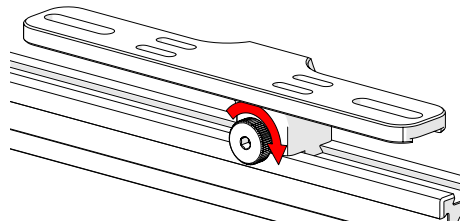

Fig. 85 - Tighten knob
2. Tighten the knob to lock the preamp bracket in place (Fig. 85).